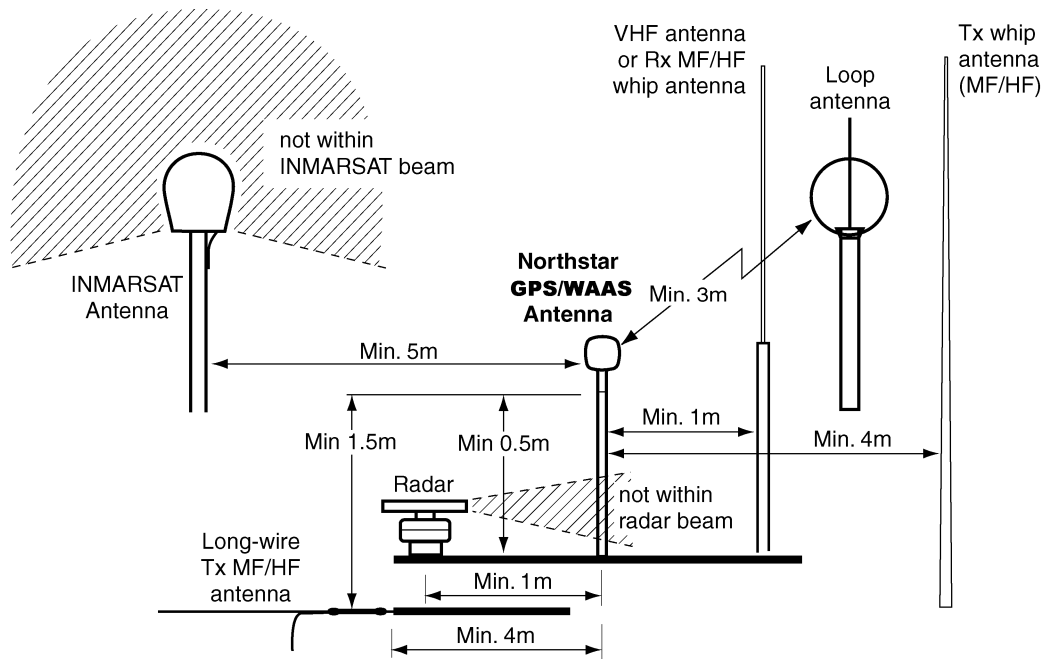

Figure 8: Recommended separation distances between antennas
- below the radiation plane of any INMARSAT or radar antennas, and away from any other high-power transmitting antennas (see Figure 8 on page 13).
To avoid mutual interference among different antennas on the vessel, see the recommendations in Figure 8 below. This figure shows the minimum distances that should separate GPS/WAAS antennas from other antennas and physical mounting surfaces. Normally, these guidelines produce a relatively trouble-free installation; however, since every installation is unique, you may want to adjust these distances to the particular equipment.